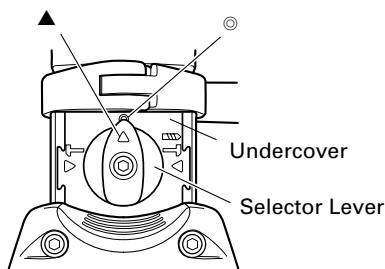

Fig. 8
- Pull the selector lever, release lock and turn it. Align ▲ of the selector lever and ◎ of the undercover as illustrated in Fig. 8.